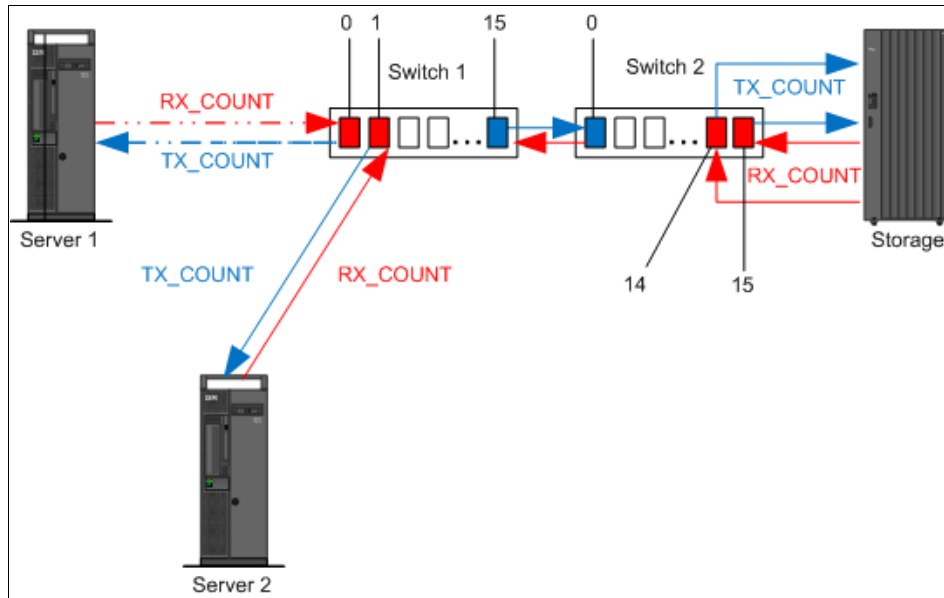

Figure 15-3 Two servers and one storage configuration
Figure 15-3 shows the configuration of two servers sending and receiving traffic from one storage device.
Referring to Figure 15-3 only the following ports can participate in Ingress Rate Limit settings:
- ▶ Ingress Rate Limiting is enabled only on port 0 switch 1 in Figure 15-3.